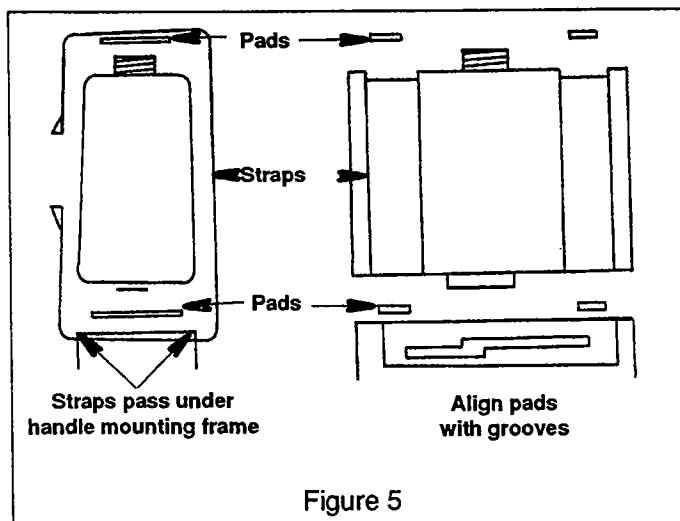

Figure 5
8. Attach fuel tank (see fig. 5) as follows: